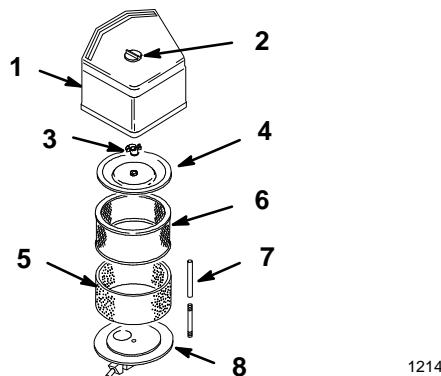

Figure 14
- Remove knob and the air cleaner cover (Fig. 14).
4. Carefully slide the foam element off the paper element (Fig. 14).
5. Unscrew the cover nut and remove the cover and paper element (Fig. 14).
1. Carefully slide the foam element onto the paper air cleaner element (Fig. 14).
2. Slide the air cleaner assembly and cover onto the long rod. Now screw the cover nut finger-tight against the cover (Fig. 14).
3. Install the air cleaner cover (Fig. 14).